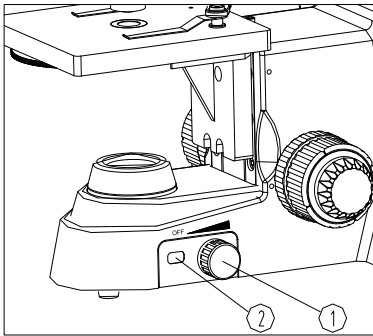

Fig. 7
1. Put through the power and adjust the light adjustment knob ① until the illumination is comfortable for observation. Rotate the light adjustment knob in clockwise to raise the voltage and brightness. Rotate the light adjustment knob in counterclockwise to lower the voltage and brightness (see Fig. 7).